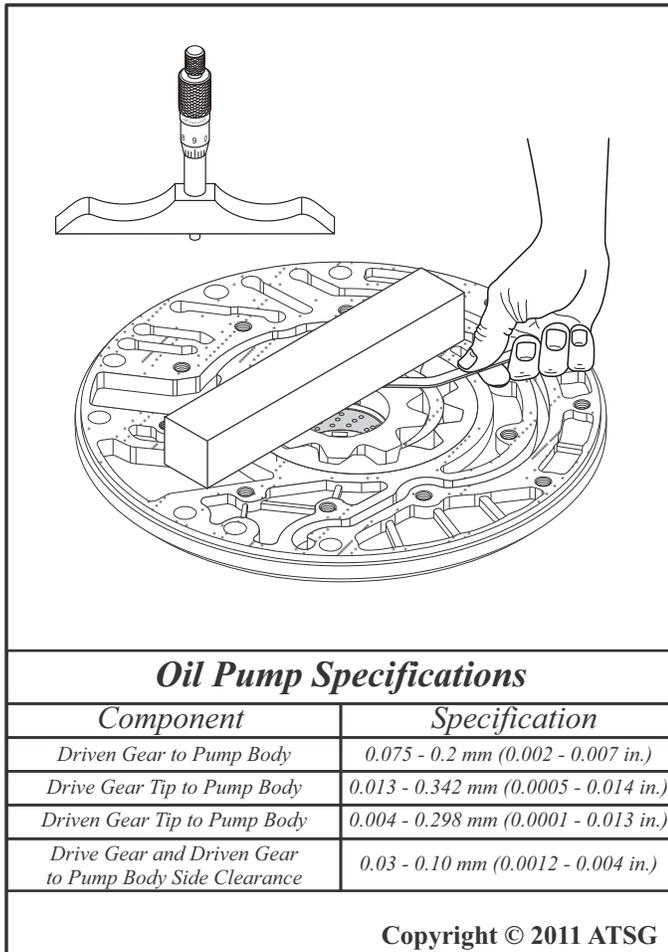

Figure 99
19. Using a feeler gage, measure the clearance between the Pump Body and the gears as shown in Figure 99
20. Use the specifications shown in Figure 99 to determine if the pump gears and pump body are within clearance specifications.